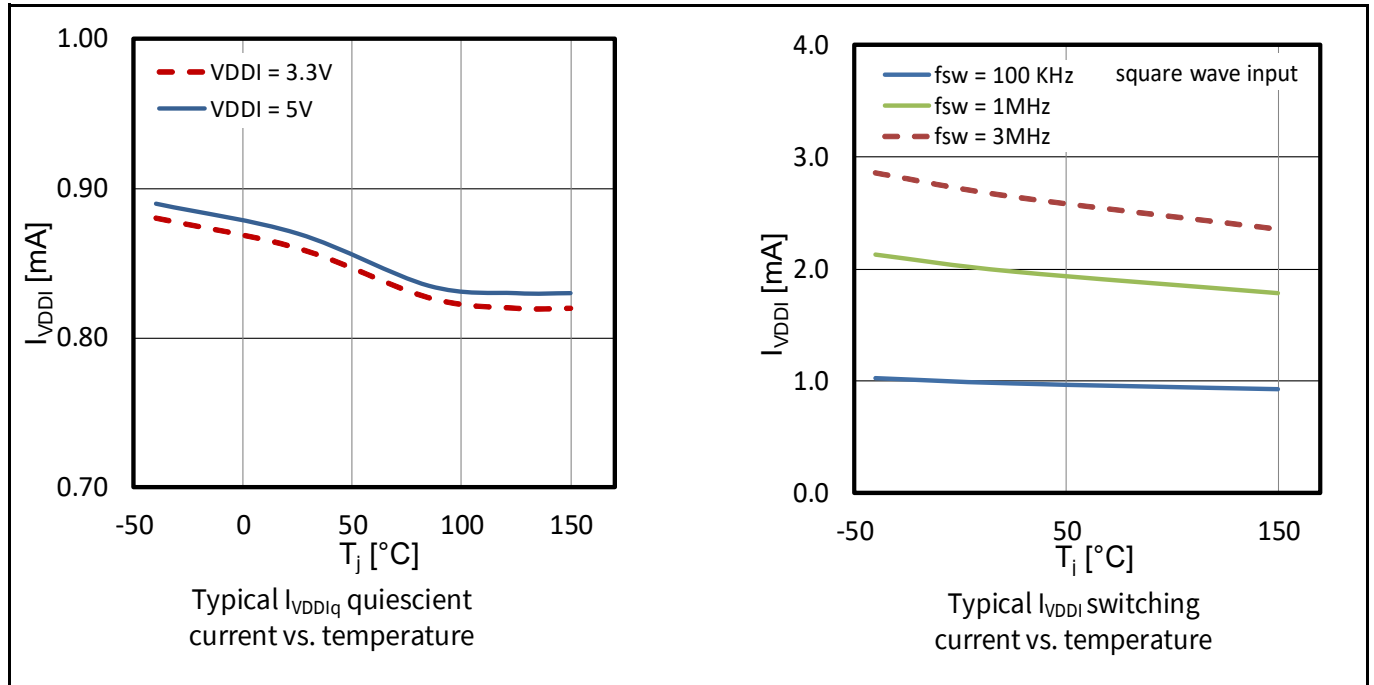

**Figure 14** Typical application circuit for 650 V CoolSiC™ driving
**Figure 14** depicts a typical use case for 600V Infineon's SiC power switches (CoolSiC™) in a so-called “totem-pole” PFC. It consists of a 48mΩ SiC half-bridge controlled by two 1EDB9275F EiceDRIVER™; the diode functions indicated in the power path are usually realized with low-RDS(on) MOSFETs operating as synchronous rectifiers. 3.3 kW of power can be handled at very high efficiency (above 99%).
In **Figure 14** a Schottky diode at the CoolSiC™ gate is recommended to clamp switching induced undershoots on the gate terminal which may cause a potential drift in the gate threshold voltage  $V_{gs,th}$  over lifetime.